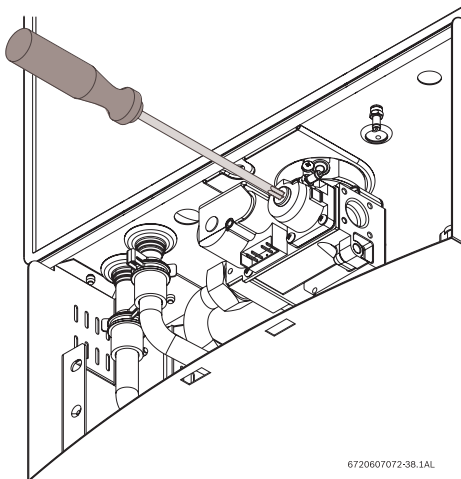

Fig. 58 Adjusting P2 CO2 level
- ▶ Remove yellow painted #40 Torx cover from the front of the gas valve. (Fig. 58) A plastic #40 Torx screw will be revealed.